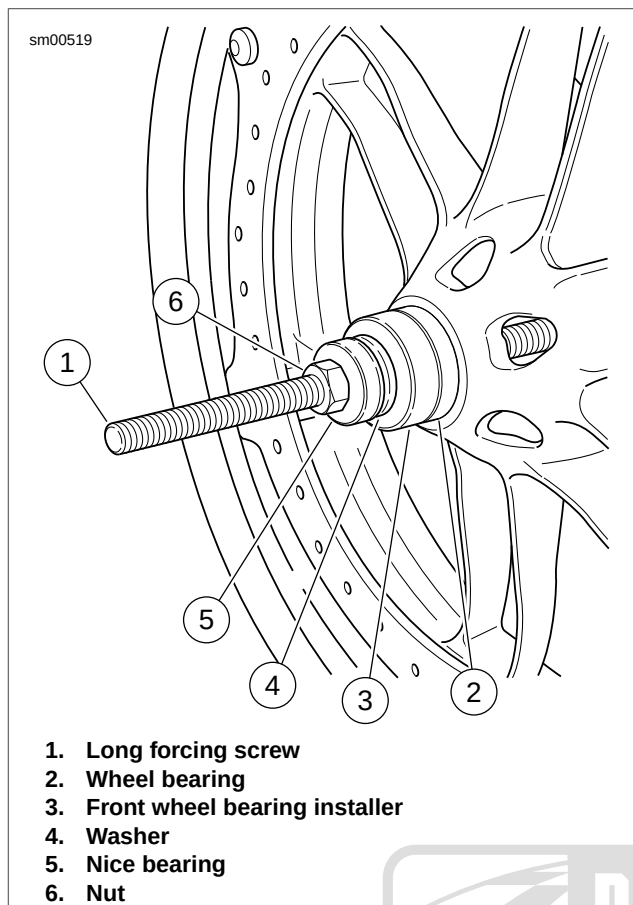

Figure 2-12. Installing Wheel Bearings
2. See Figure 2-12. Sparingly apply EXTREME PRESSURE LUBRICANT (Part No. J-23444-A) to the threads of the long forcing screw (1) to prolong service life and ensure smooth operation.